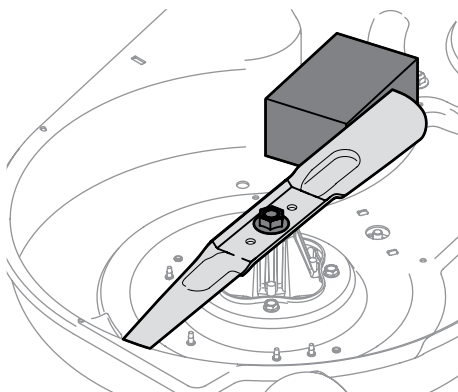

Figure 4-6
2. Place a block of wood between the deck housing baffle and the cutting blade to act as a stabilizer. See Figure 4-6.
3. Remove the hex flange nut that secures the blade to the spindle assembly. See Figure 4-6.